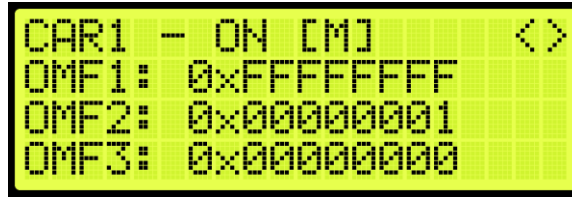

Figure 267: Front Opening Map Status
4. From the Front Opening Map Status (See Figure 267), press the right button.